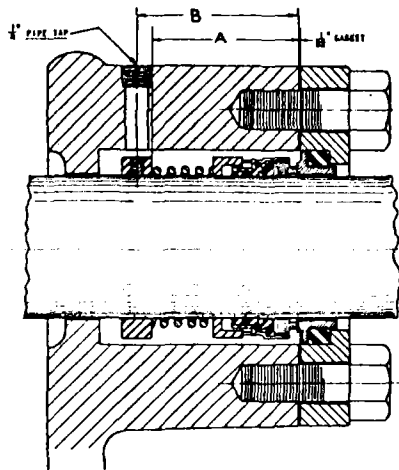

Fig. 12
3. If stuffing box has not been drilled and tapped for collar set screw wrench, drill and tap per tabulation shown in Fig. 12 and 13.
4. Assemble floating seat to stuffing box gland as shown in Fig. 12. Make sure that the synthetic rubber ring is tight against the shoulder of the floating seat, with rounded outer edge at the rear to facilitate insertion. The ring is assembled this way when shipped. Oil the outer surface